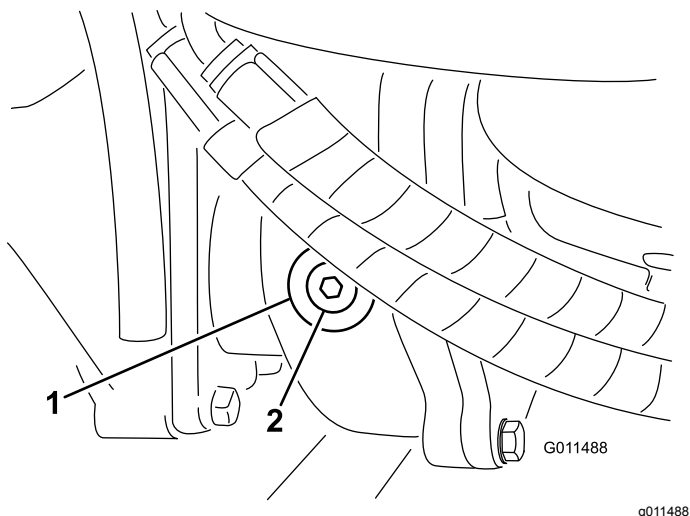

Figure 95
2. Remove the check/fill plug from the left side of the gearbox and ensure that lubricant is up to the bottom of the hole (Figure 95).